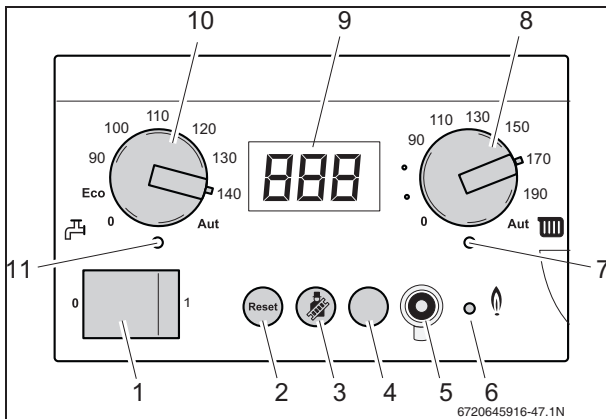

Fig. 71 BC10 basic controller
- Push on the control panel to open it. Switch OFF the appliance by pressing the main switch of the BC10 (fig. 71, [1]).
- Switch off OFF appliance by pressing the main switch of the BC10 (fig. 71, [1]).